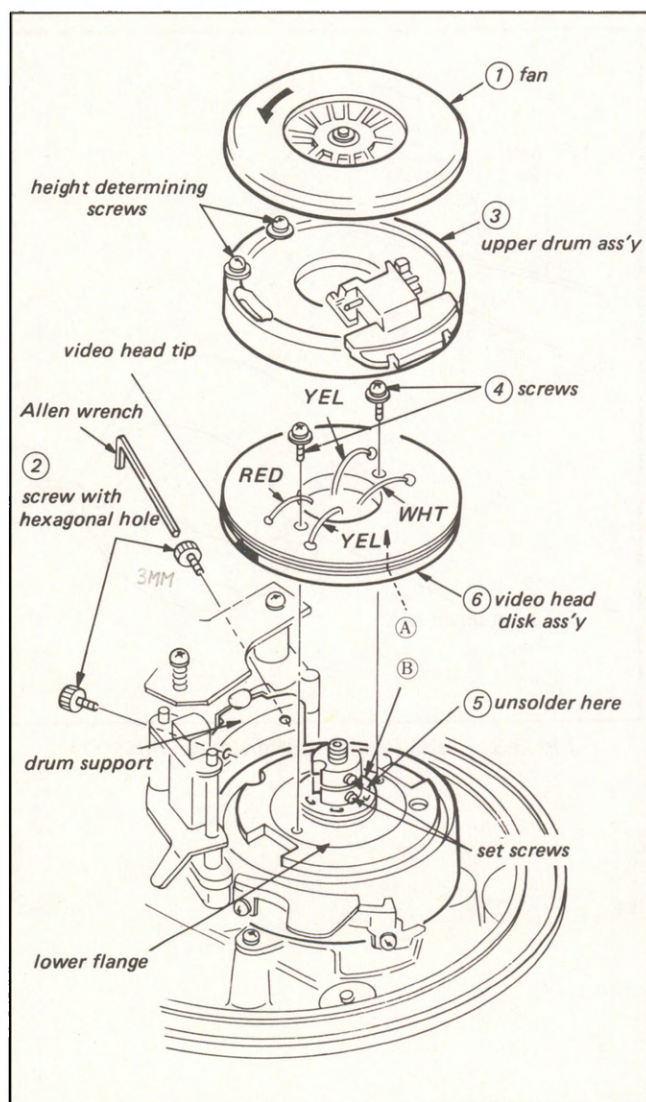

Fig. 3-1. Replacement of the video head disk assembly
1. Remove the video head disk assembly, following Steps ① to ⑥ shown in Fig. 3-1.
- (ii) Turn the shaft of the drum counterclockwise slowly with the fingers and adjust the video head disk position so that the variation in the reading of the drum eccentricity adjusting gauge is within $5\text{ }\mu\text{m}$ during each turn of the drum, by very gently tapping a screwdriver whose blade-tip is against the inner circumference of video head disk assembly (4).
- (iii) Tighten the screws (5) that secure the video head disk assembly (4) alternately and gradually after the eccentricity adjustment is completed. (tightening torque: more than 10 kg.cm .)
- (v) Solder the four leads of the head and remount the upper drum assembly while holding the upper drum height determining screws. (See Fig. 3-1.)